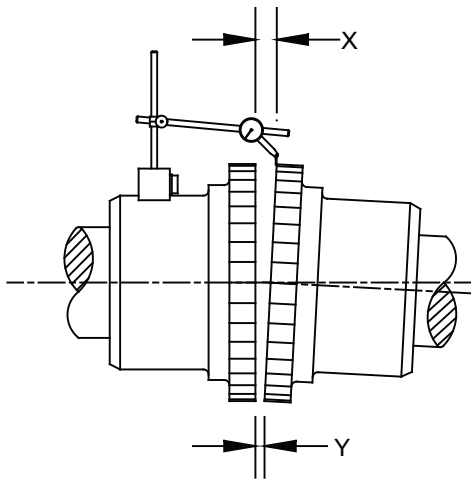

Figure 4 - Angular Misalignment
- Angular misalignment is measured by mounting a dial indicator on the reducer coupling hub with the probe contacting the mating coupling hub face (Figure 4). Slowly rotate the reducer shaft to determine the variation in gap between the ends of the hubs in both the vertical and horizontal planes. Vertical angular misalignment is corrected by adding or removing shims under the appropriate mounting pads on the reducer or baseplate. Horizontal angular misalignment is corrected by moving the shaft being aligned to alter the angular relation.